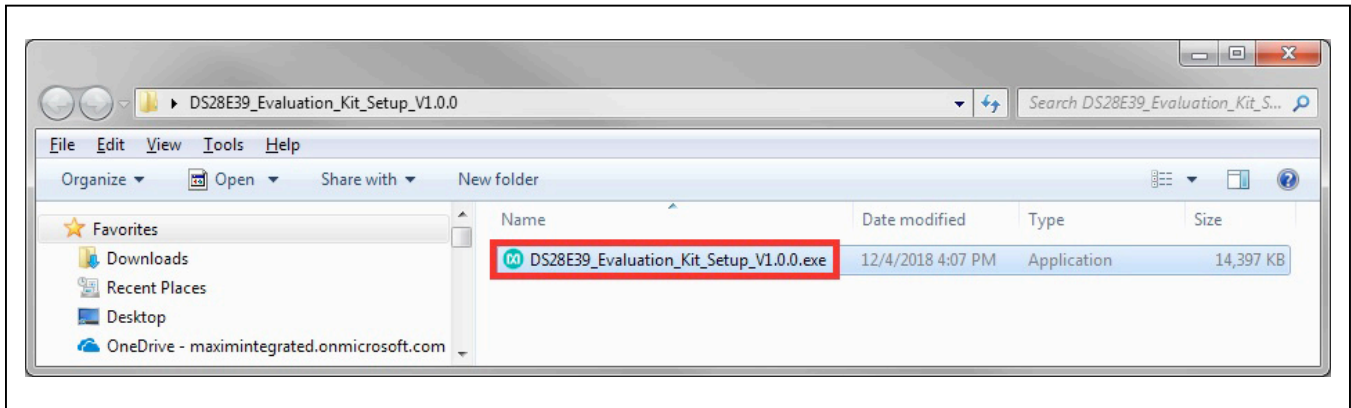

Figure 1. File Viewer
- 2) In a file viewer (**Figure 1**), double click on **DS28E39_EV_Kit_Software_Setup_V1.0.0.exe** to begin the installation.